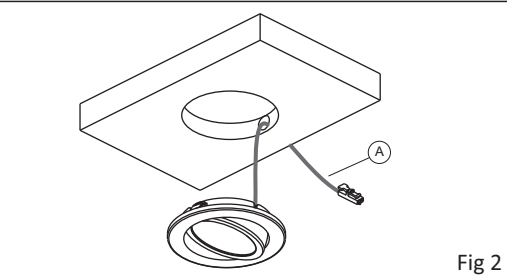

Fig 2
- Insert the power supply cable (A) into the hole and then install the light, applying light pressure until it is completely fitted as illustrated in figure 2.